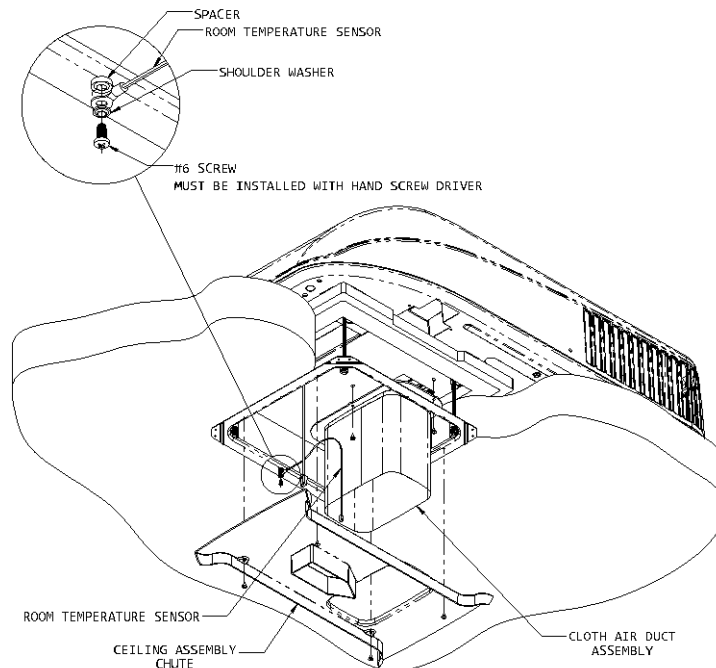

FIGURE 5
Refer to Figures 5 and 6
- G. Attach the room temperature sensor to a middle hole of the steel mount frame using spacer, shoulder washer, and #6 screw provided. Refer to Figure 5.